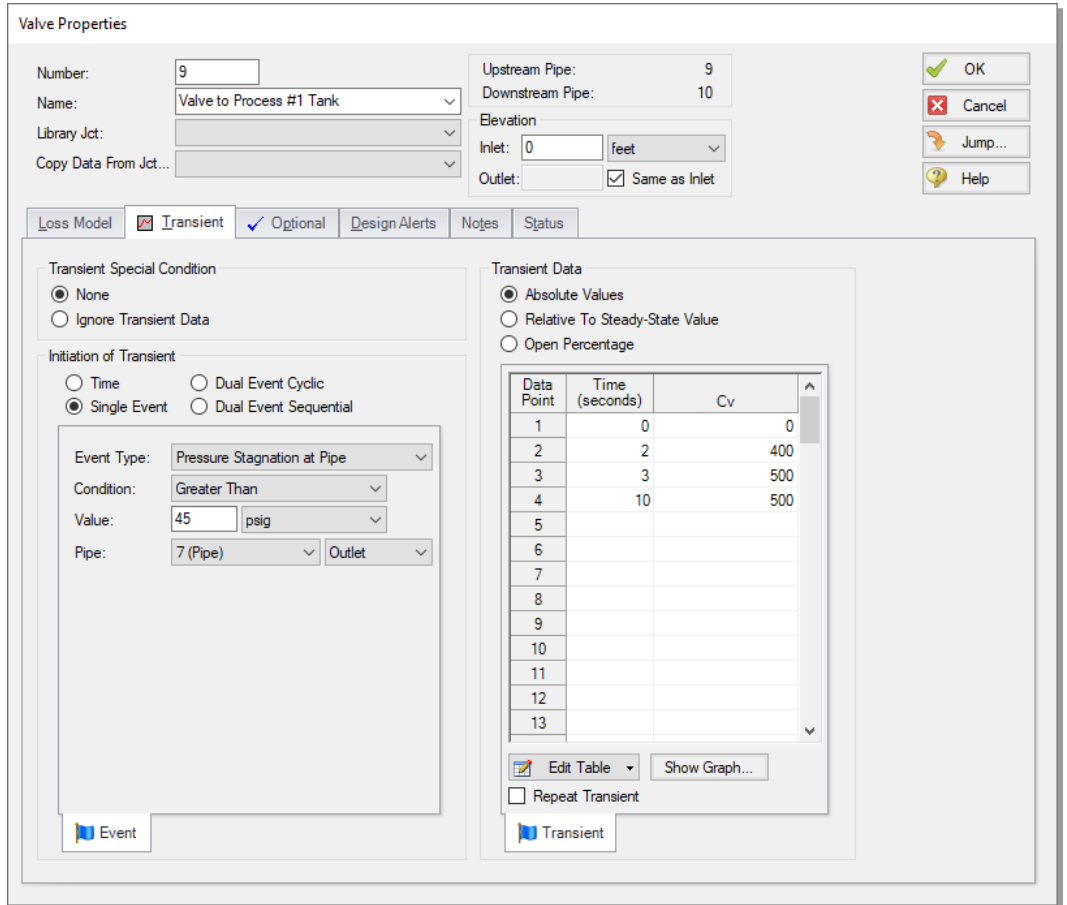

Figure 3.2 Specifying an event transient for Valve J9
6. Click the Transient tab (Figure 3.2)